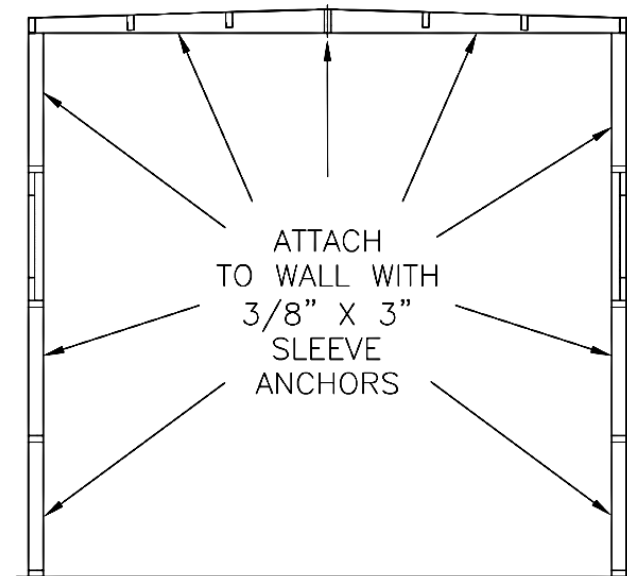

FIG 9B
- Drill holes through remaining Mounting Brackets (Figure 9b).